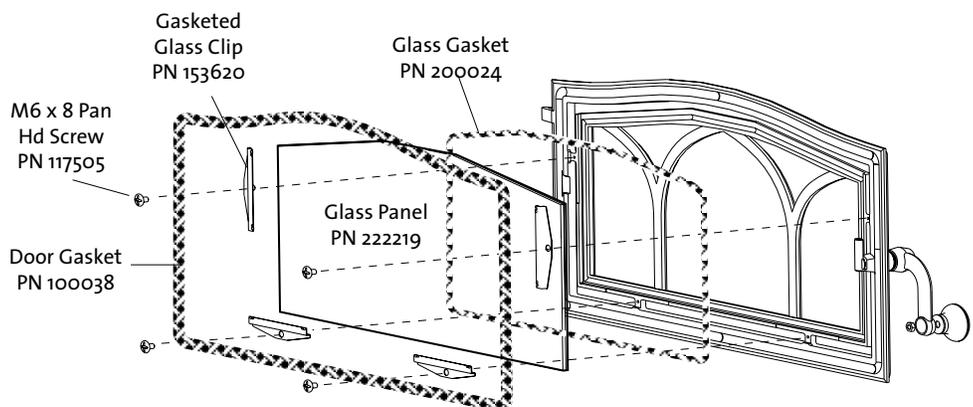

Figure 20.
2. First loosen and then carefully remove all of the glass clips from the inside of the door. See fig. 20.